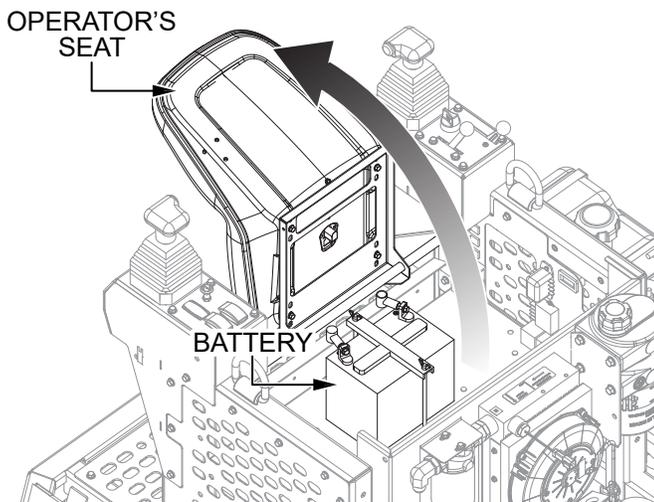

Figure 12. Battery Access
1. Tilt the operator's seat forward (Figure 12) to access the battery.